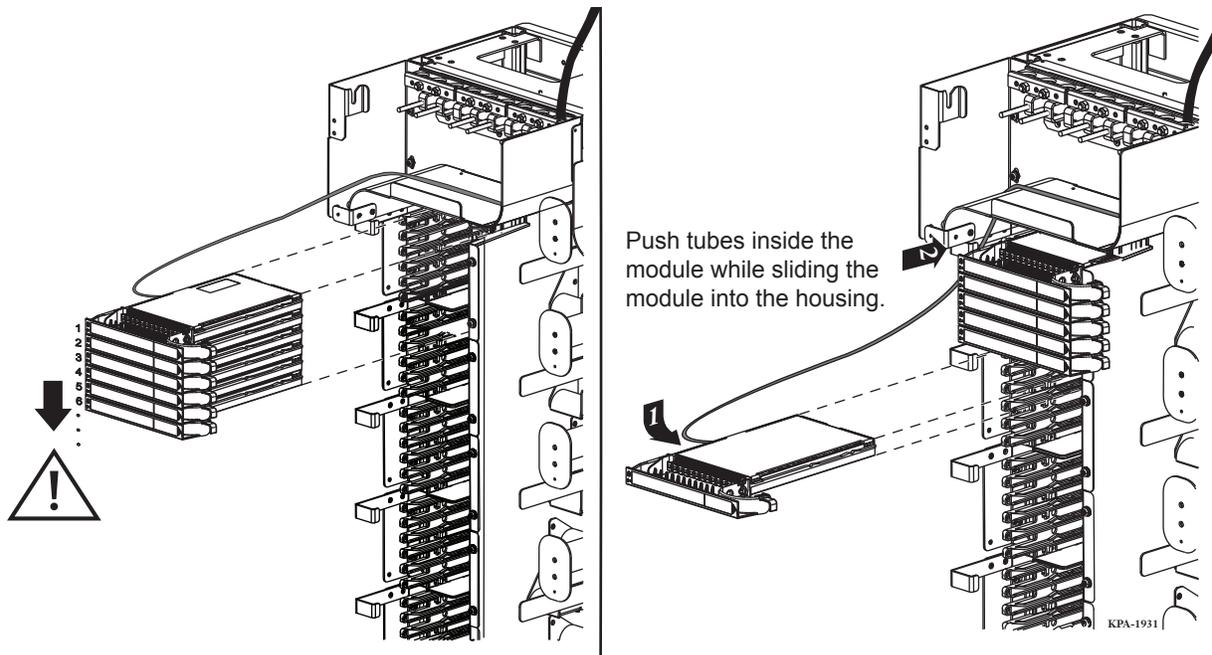

Figure 43
Step 7: Insert module into housing, starting at the top of the housing (Figure 43) and dress tubes inside the module and cable channel.